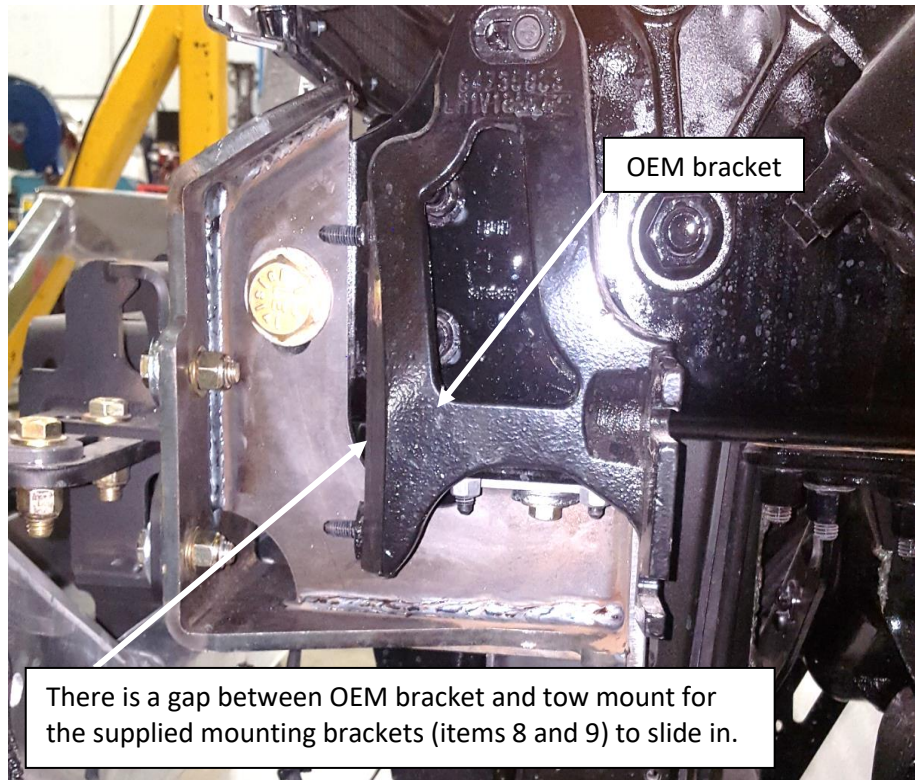

Figure 5.2 – Herd Mounting Brackets Location (Driver Side Shown)
Please make sure the mounting brackets (items 8 and 9) are mounted from the bottom and slide in between the truck's tow mount and OEM bracket as shown in Figure 5.2